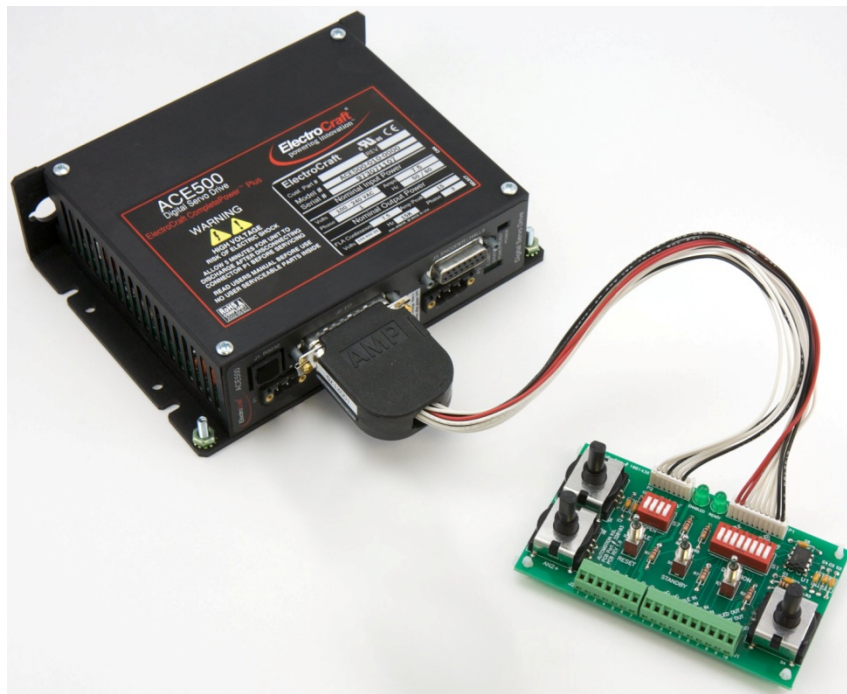

Figure 2
1. Connect wire harness part number 1002170 for the ACE500, see figure 2 above.